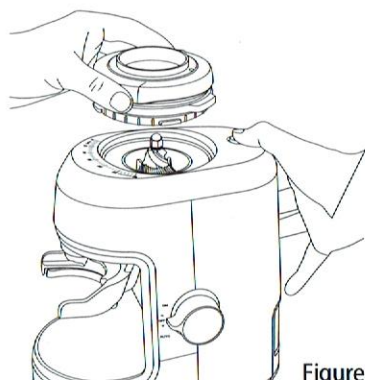

Figure 10
4. Lift the grind cartridge away from the grinder base, see figure 10.